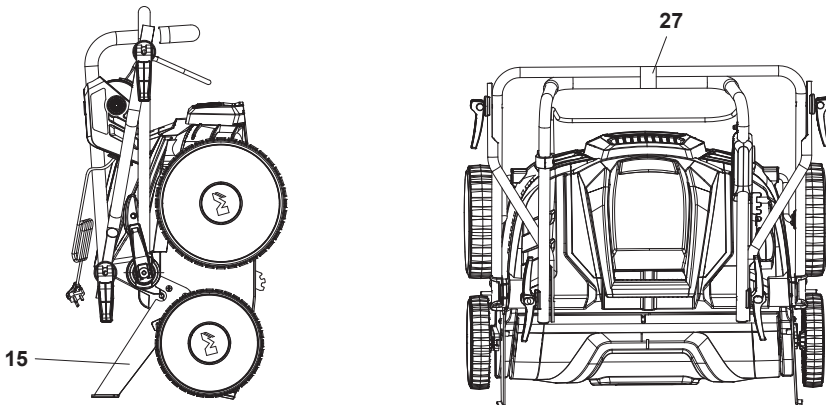

Fig. 16
3. Fold the handle assembly, locking the lower handle bar in the 3rd (storage) position and then fold the middle and top handle bars. Invert the machine and place it on the ground on the two stand brackets (15) to save storage space. Secure the handles with the supplied cable tie (27) to avoid opening of the handle assembly (Fig. 16).